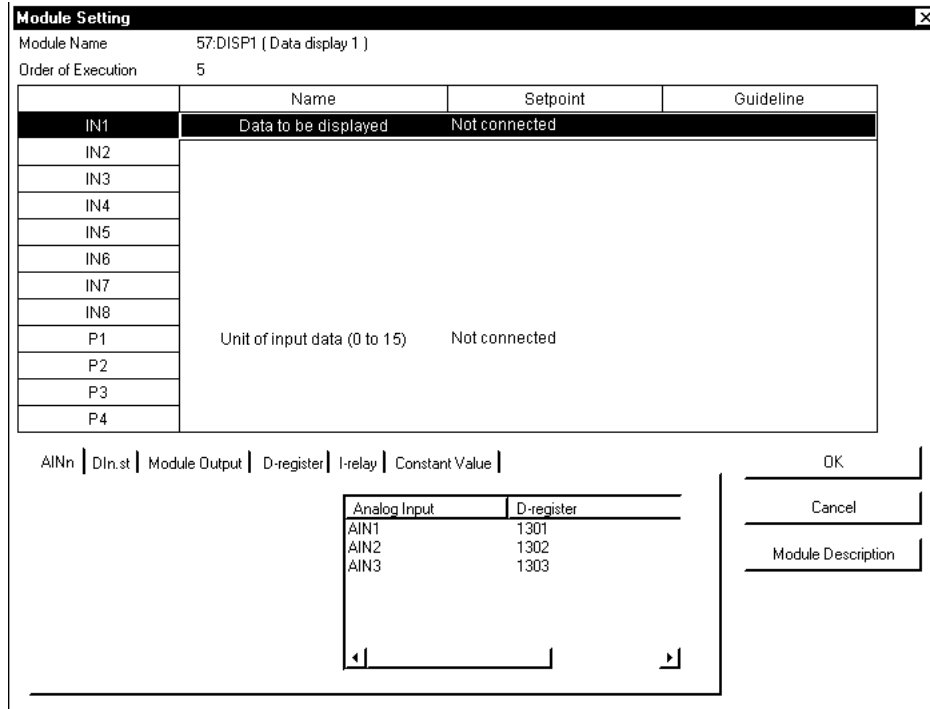

Figure 12.2.4 [Module Setting] Dialog Box
- ① Click the registered fifth-run DISP1 module.
- ≠ From the tool menus, choose <Editing>, then <Connection>. The [Module Setting] dialog box (Figure 12.2.4) appears.